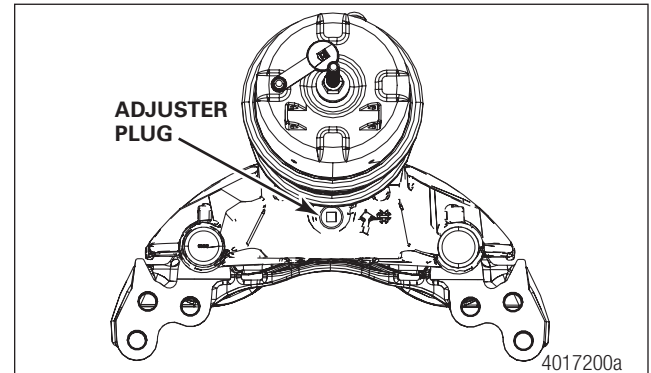

Figure 5.1 Adjuster Plug Installed
- Check that the adjuster plug is present. If missing, replace the plug immediately. Figure 5.1.